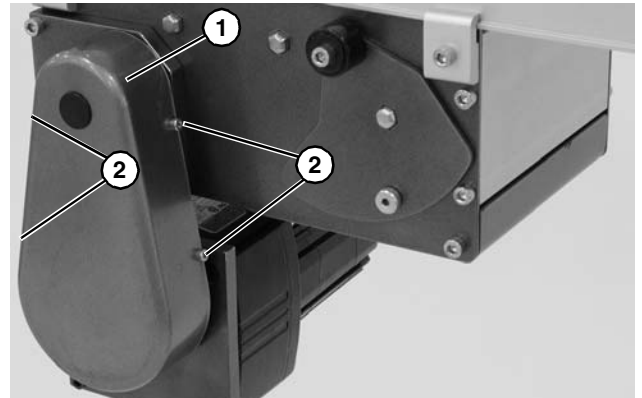

Figure 17
- Install cover (**Figure 17, item 1**) with four (4) screws (**Figure 17, item 2**). Tighten screws to 35 in-lb (4 Nm).